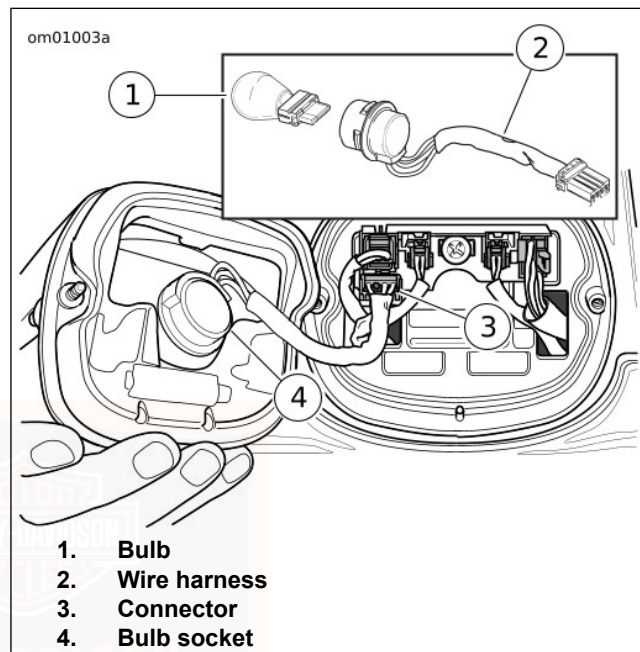

Figure 85. Tail Lamp
2. See Figure 85. Press the tab on the connector (3) and remove the connector from the base.
3. Rotate bulb socket (4) a quarter turn counterclockwise. Remove socket, wire harness (2) and bulb (1).
1. See Figure 85. Apply ELECTRICAL CONTACT LUBRICANT to the contacts of a **new** bulb (1). Press the new bulb into the wire harness (2) socket (4).
2. Insert socket (4) into tail lamp lens. Rotate socket a quarter turn clockwise to lock it in place.
3. Snap tail lamp connector (3) into tail lamp base.